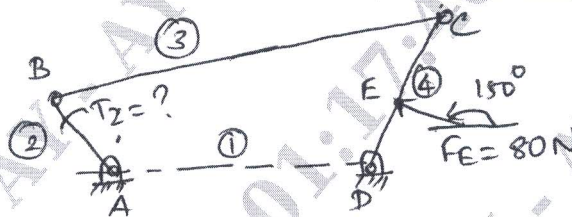

Fig.Q3(a)
- 3 a. A four bar link mechanism is acted upon by forces as shown in Fig.Q3(a). Determine the torque  $T_2$  to be applied on link 2 to keep the mechanism in equilibrium.